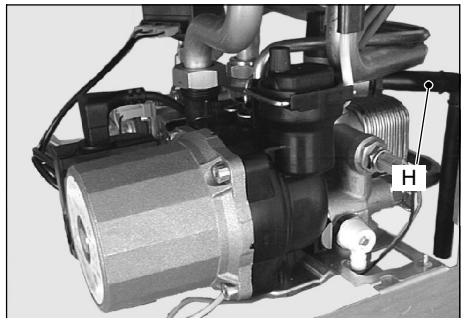

Fig. 6.4
- 8 Connect the pipe H (Fig. 6.4) from the pressure relief valve to the safety discharge pipe-work.